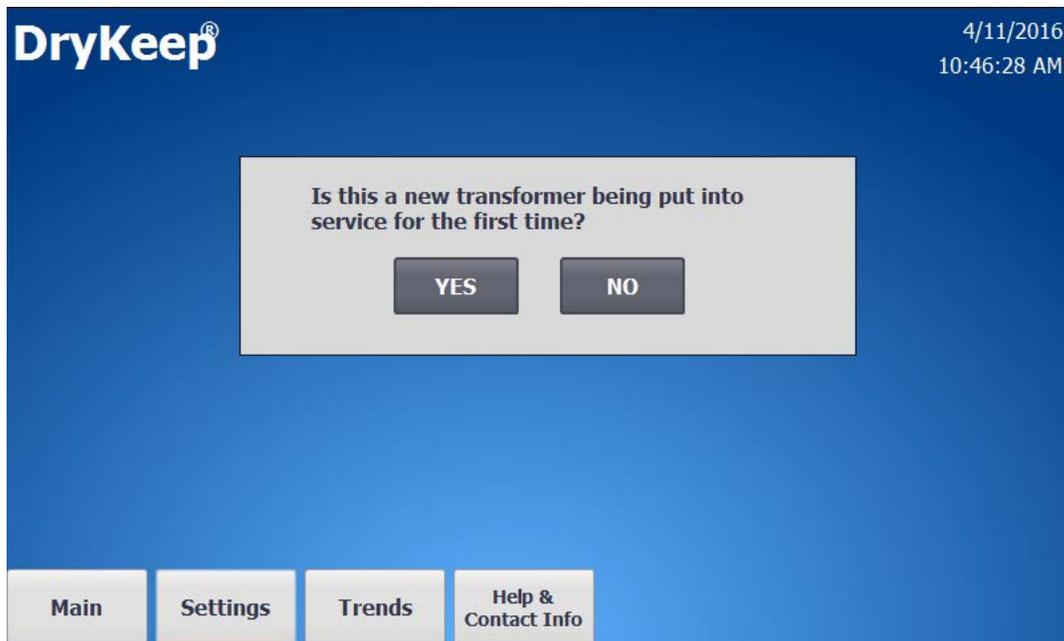

Figure 7: Initial startup screen when system is ready to be put in service
- 5) The controller system will take a few minutes to cycle and start up. You will see two connection screens flash on the display screen (HMI). Once those connections are made, the first startup screen will display as shown in Figure 7 and you can press “YES” or “NO” to begin the setup.